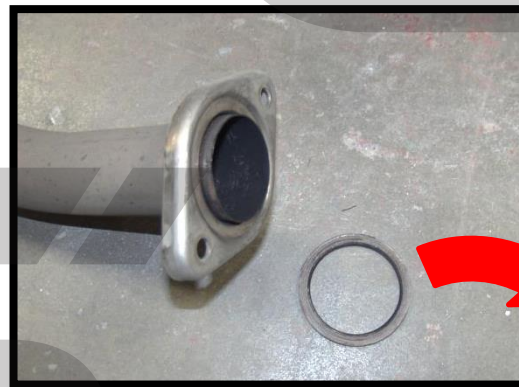

Figure 4e
g) Transfer the gasket from the factory exhaust flange to the end of the CorkSport mid section exhaust pipe (Figure 4e).